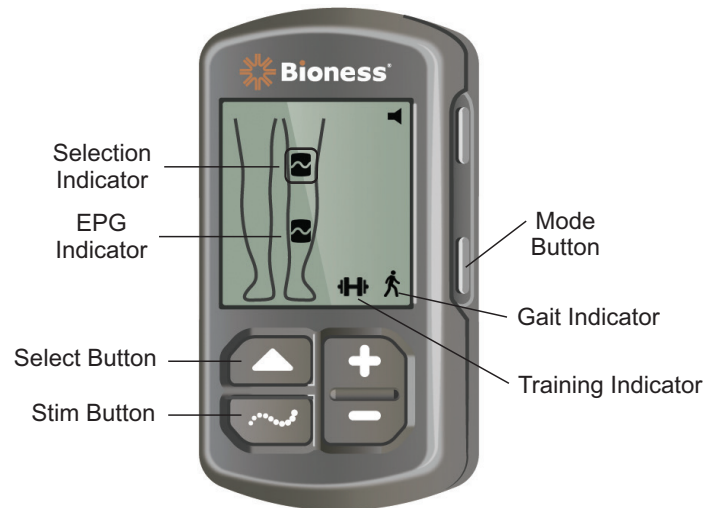

Figure 4-8: Selecting a Operating Mode on the Control Unit
be used to toggle between the Lower Leg EPG and thigh EPG or to select both EPGs. See Figure 4-8.
5. To select Gait mode, press the Mode button on the Control Unit until the Gait Indicator icon appears in the lower right corner of the digital display. See Figure 4-8.
6. To select Training mode, press the Mode button on the Control Unit until the Training Indicator icon appears in the lower right corner of the digital display. See Figure 4-8.
3. To stop stimulation, press the Stim button on the Control Unit. See Figure 4-8.